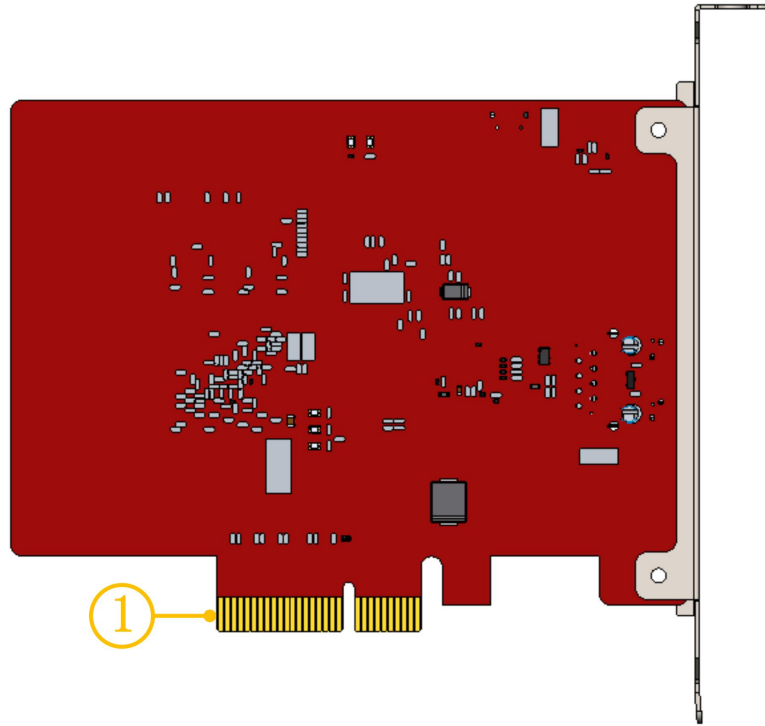

Figure 6 Gold Fingers
BMC228X PCIE socket is X4 (Figure 6①)and can be used for X4, X8, X16. Its PCI Express Protocol standard is V2.0 (Gen2) and the motherboard requirements are as shown in Table 2-3.